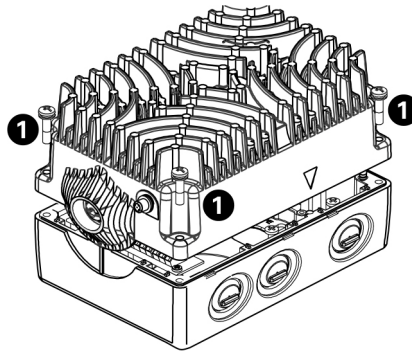

Figure 4-1 Removing Inverter cover
1. If the Inverter has already been fitted unscrew the four crosshead captive screws (1) on the inverter cover (as shown Figure 4-1).